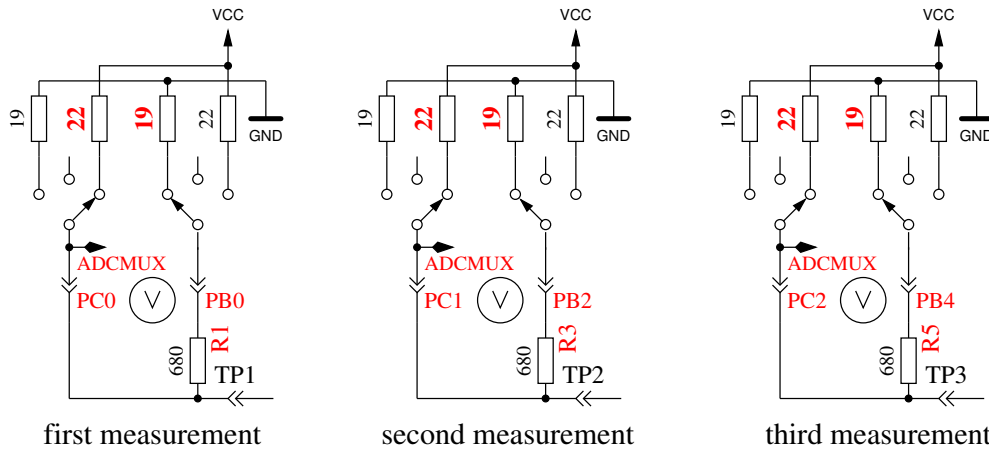

Figure 5.44: Measurement of internal resistance of Port C switched to VCC
8. **Measuring of internal resistance of port outputs switched to the VCC (+)signal.** The needed current is generated with to GND connected  $680\Omega$  resistors . It are the same measurements as those in test 7 to the other side as you can see in Figure 5.44. With the following steps the resistance is computed: To get the current, the following is computed:  $(VCC - (resultoftest7) - (resultoftest8))/680$ . To get both resistor values, the voltage (result of test 7 or 8) is divided by this current. The result for this test will then be notified in row 1 with the text "RI.Hi=", the resistance value ( $\Omega$ ) to the GND side is displayed in row 2 with the text "RI.Lo=". Both results will be written to the EEprom memory and will be used for further measurement.